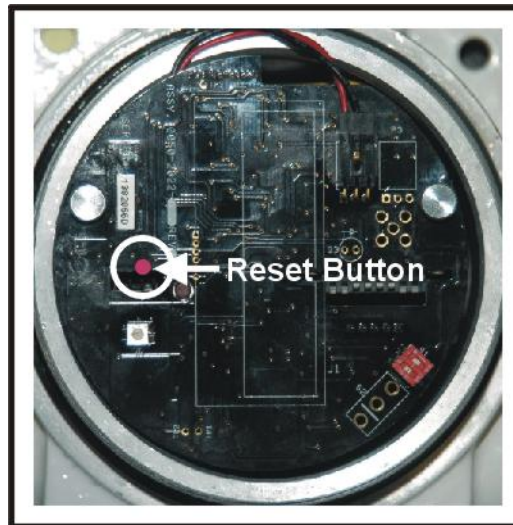

Figure 11.2: Monitor Reset Button
- 11.2.2 Locate the reset button on the PCB Assembly. Figure 11.2